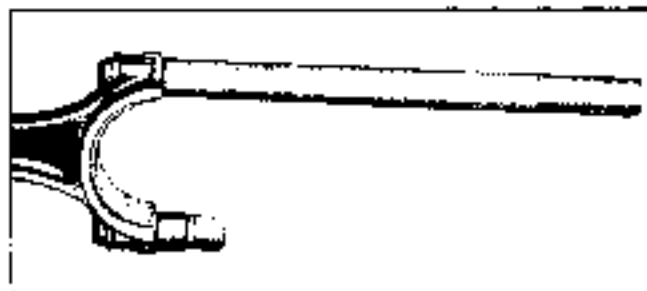

Fig. 6-64 Connecting Rod Guide Tool
1. Install connecting rod bolt guide set J 5239 on connecting rod bolts (Fig. 6-64).